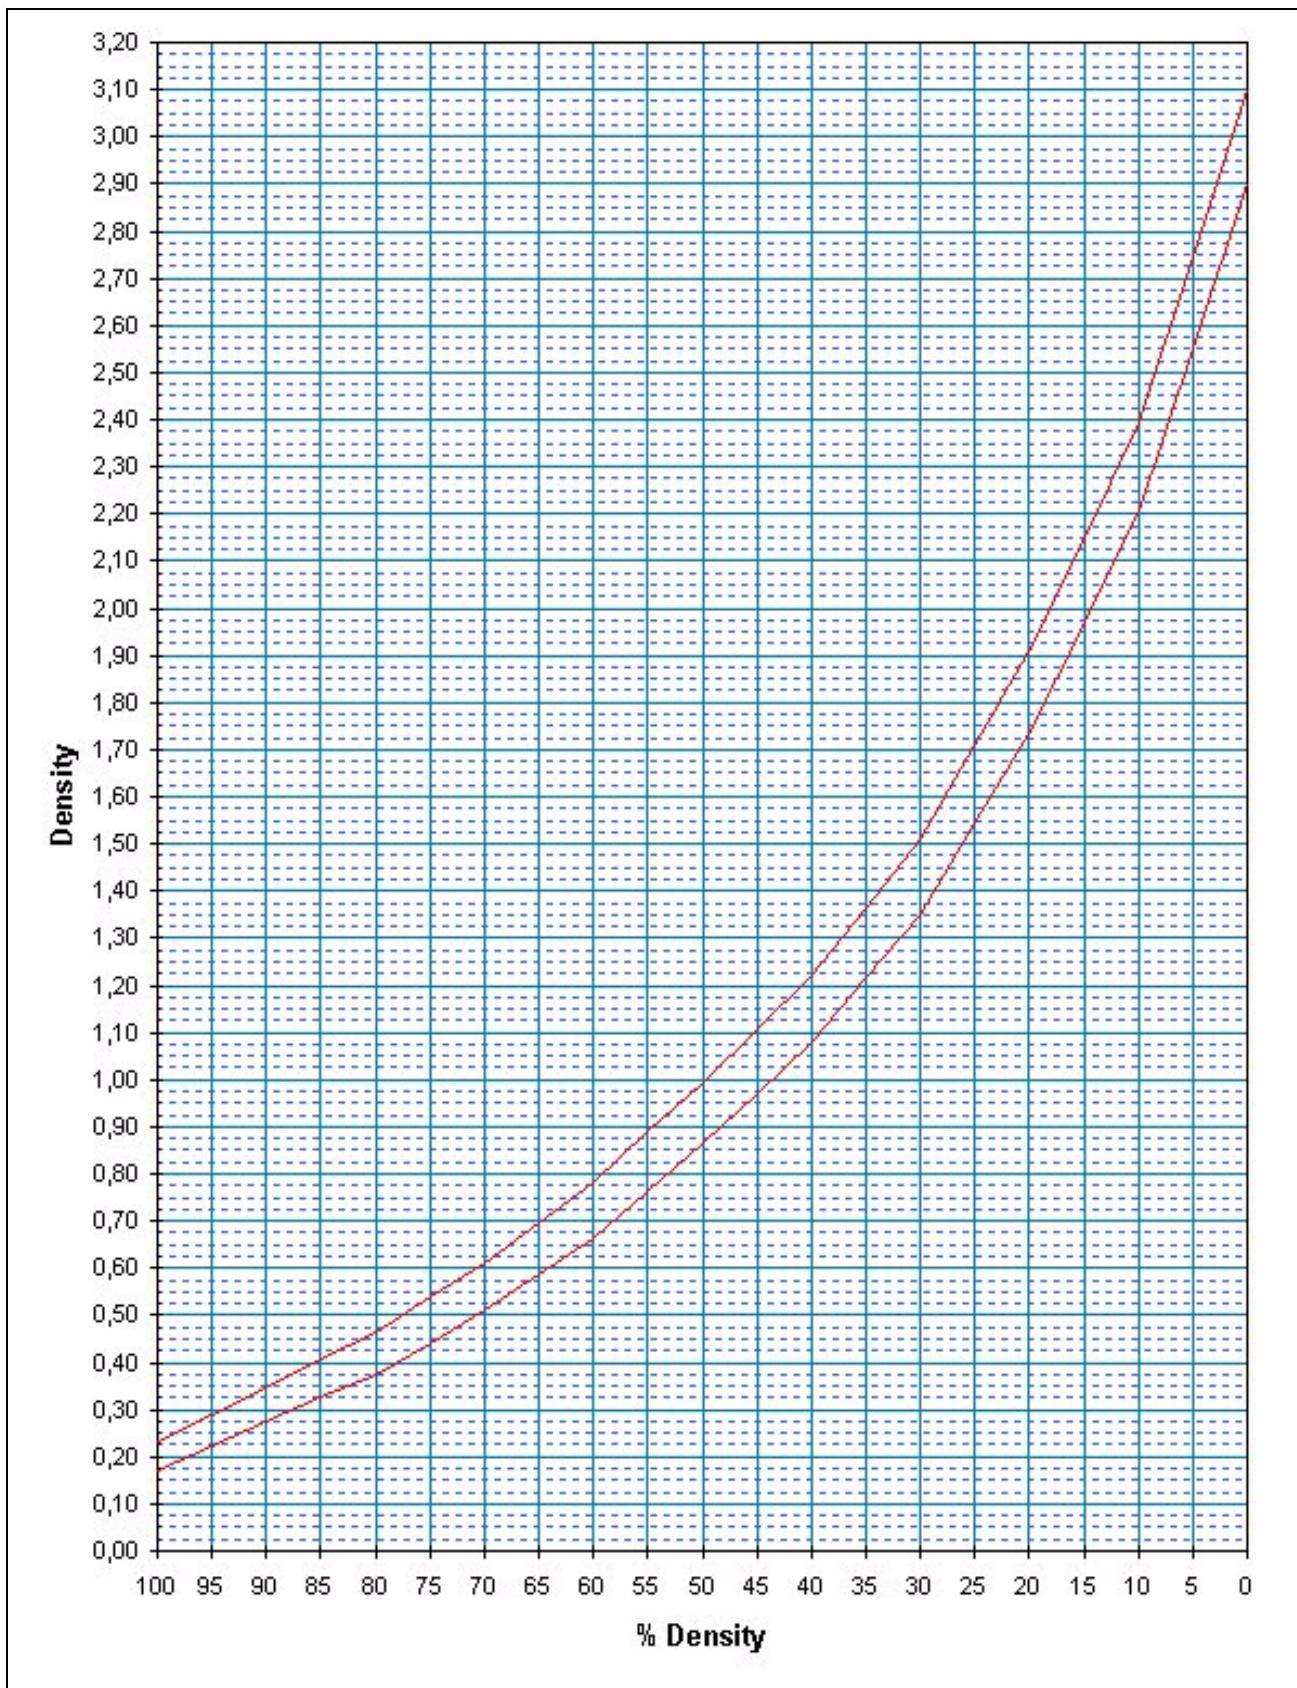

Fig. 2 Nominal values density
- Evaluate the 21 grey steps with the densitometer and mark the results in Fig. 2 during startup.
- If a diagnostic test has to be done during service compare the newly measured HCC printout with the startup values marked in Fig. 2.